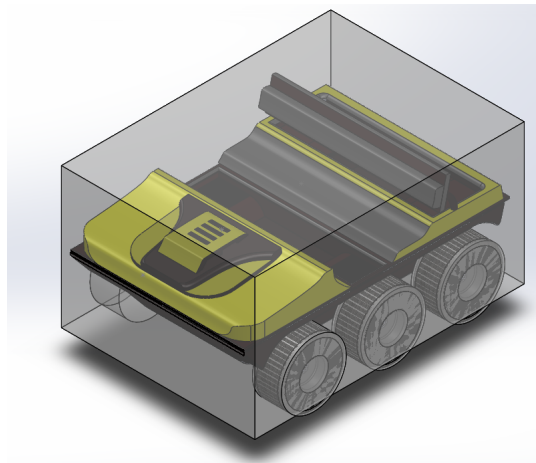

Figure 7: Overlayed Models
9. Overlay the collision and visual models on top of each other to see if they are of proper scale and shown in Fig.7